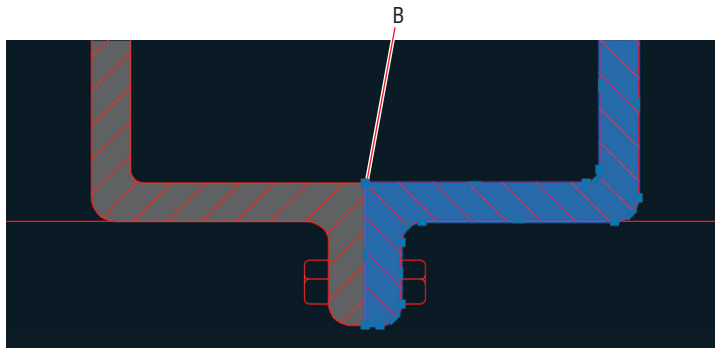

FIGURE 8.17 Setting the origin of the inner-right pattern
7. Click the Set Origin button and click point B in Figure 8.17. Press Esc to deselect.
8. Select the inner pattern on the left. Click the Set Origin button and once again click point B in Figure 8.17. Press Esc to deselect.